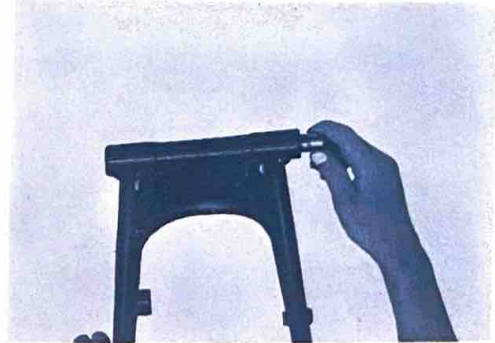

Fig. V-8-4
- 1) Check the play of the rear swing arm by shaking it as shown in Fig. V-8-4, with the rear swing arm installed. If the play is excessive, replace the rear swing arm bushing or the rear swing arm shaft.
- 2) Insert the bushing as indicated in Fig. V-8-4, and check it for play. If the play is excessive, replace the bushing.